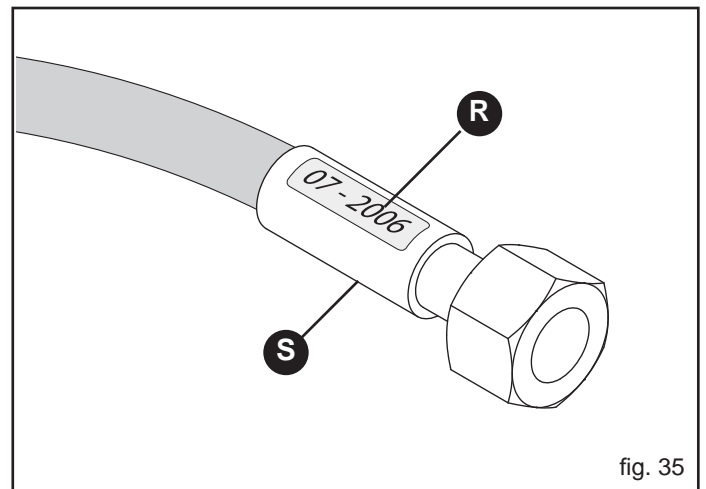

fig. 35
- Figure 35 (R) shows hydraulic pipes bearing the year of manufacture as an example.
- when leaks are identified near the pipe sheath (S, Fig. 35);
- when the sheath is corroded (S, Fig. 35);
- 5 years after their manufacture (R, Fig. 35).